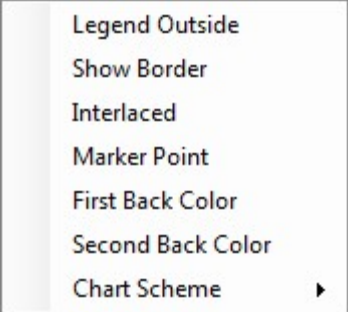

Figure 4-24: Chart Commands
- *Chart* Command (Figure 4-24).